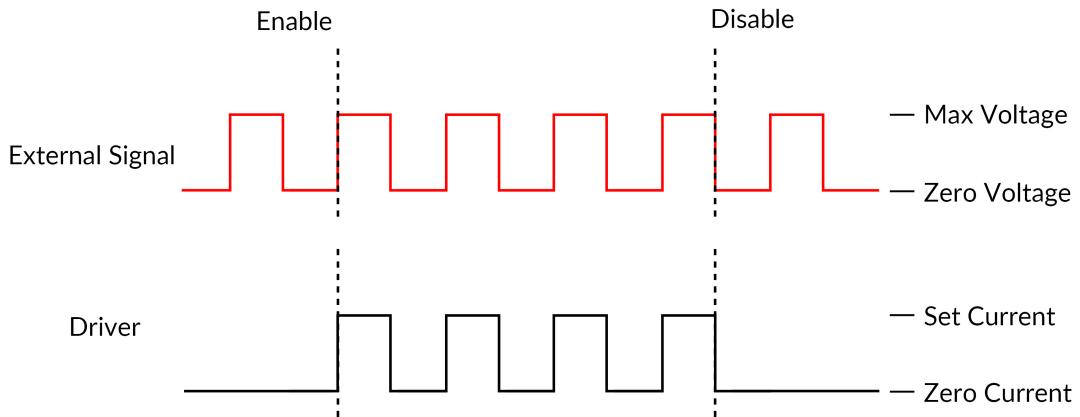

Figure 3.4: Driver Signal Response to External Source in External TTL Mode
- b) The **External TTL** mode (Fig. 3.4) has the light source follow a TTL signal provided by an external source connected to the **BNC Input**. When this mode is active, the driver channel will show **TTL** under **MODE**. This mode has no additional sequence options.